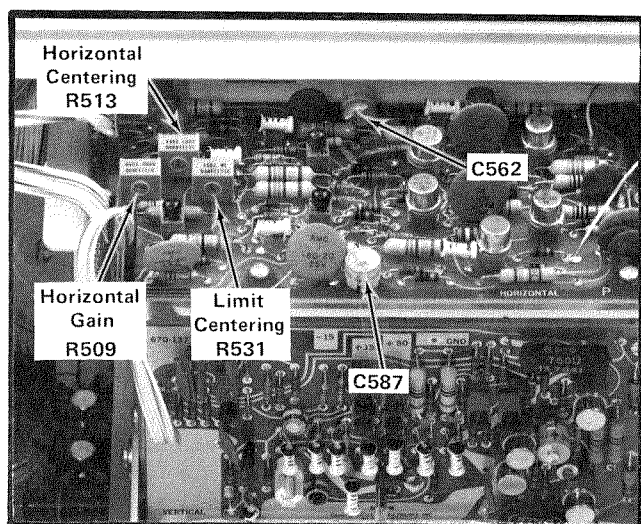

Fig. 5-7. Locations of Horizontal System Adjustments.
f. ADJUST—Horizontal Gain adjustment R509 (see Fig. 5-7) for exactly eight divisions of deflection between the second and eighth traces.
c. ADJUST—Horizontal Centering adjustment R513 (see Fig. 5-7) to position the trace to the vertical center line.
- h. ADJUST—Limit Centering adjustment R531 (see Fig. 5-7) to match the DC levels of both waveforms.